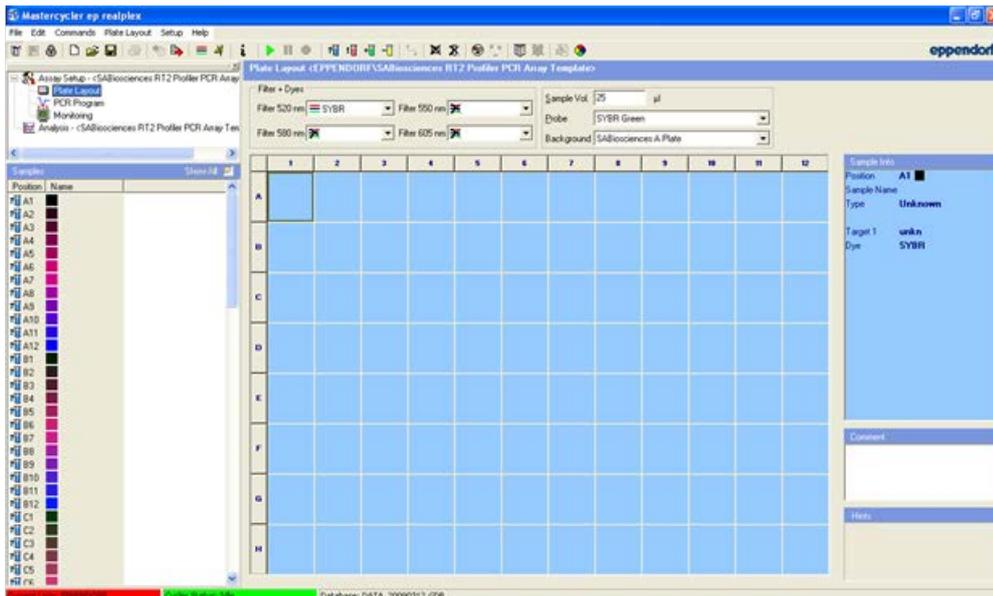

Figure 3. Complete “Plate Layout” window.
2. Select all wells, then right-click in the blue area and select “Unknown” to complete plate layout (Figure 3).